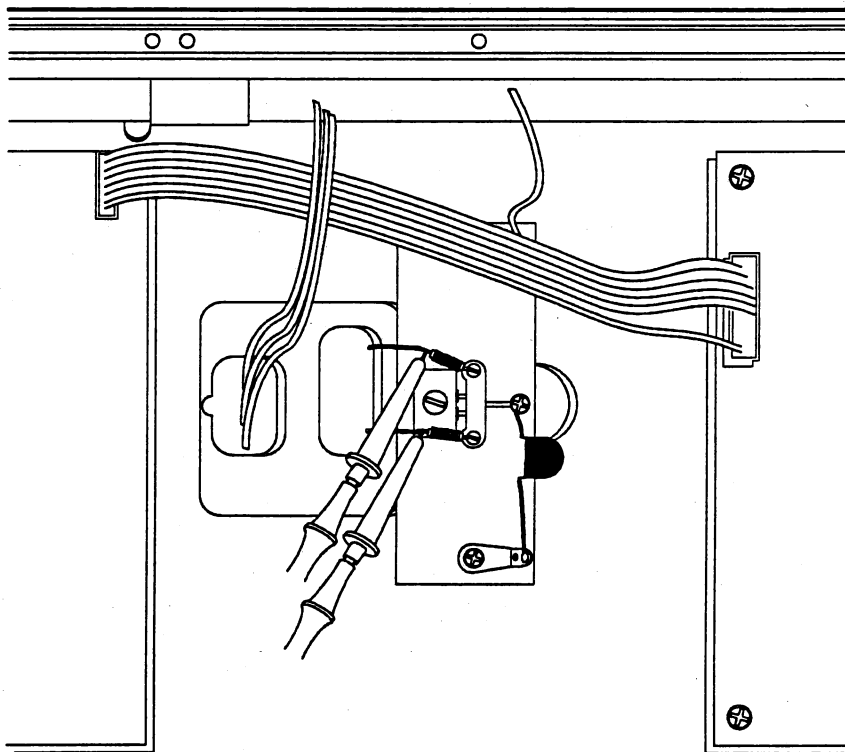

Figure 5-21: CRT Vertical Termination
5. Connect the probe lead to one side of the CRT vertical termination, below the inductor leading to the vertical plates. Figure 5-21 shows the underside of the SCD. The probes must go on the left side of the inductor's lead on the terminal board.
5. Connect properly compensated and calibrated probes for the 7A13 to the vertical deflector termination inductors as shown in Figure 5-21. You should see a 6 V (6 division) peak-to-peak square wave on the oscilloscope as shown in Figure 5-24. Establish a ground reference on the oscilloscope using the 7A13 Position control, then use the SCD Vertical Offset control to center the waveform on the test oscilloscope's screen.